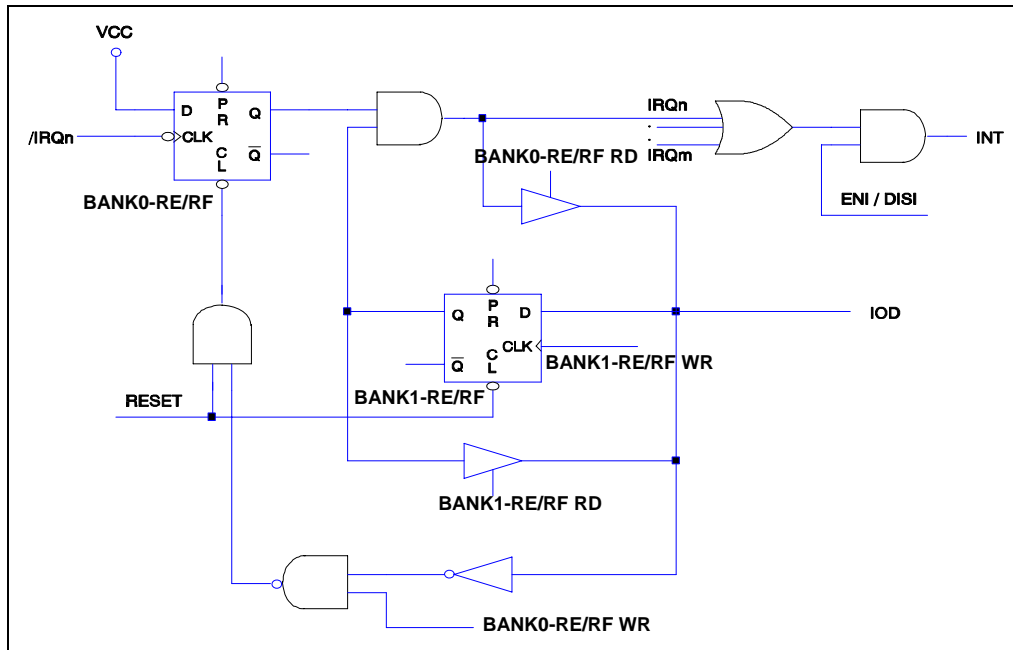

Fig. 6-8 Interrupt Input Circuit
When interrupt mask bits is "Enable", the flag in the Interrupt Status Register (RF) is set regardless of the ENI execution. Note that the result of Bank 0-RE/RF will be the logic AND of BANK 0-RE/RF and Bank 1-RE/RF (refer to Fig. 6-8). The RETI instruction ends the interrupt routine and enables the global interrupt (the ENI execution).